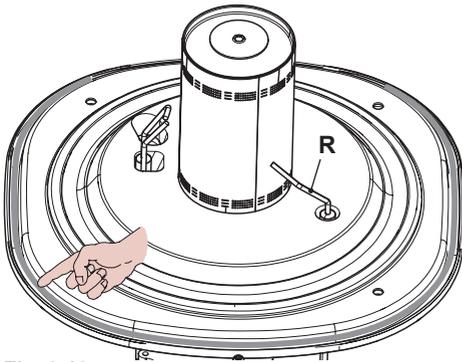

Fig. 9.10
- The detection electrode R in Fig. 9.10 also functions as a sensor for the correct drainage of the condensate. Should the mentioned electrode come into contact with the condensate water present within the combustion chamber it sends the boiler into safety lockout. Therefore, should the insulation be wet or deteriorated, provide for the substitution of the same.
**Caution:** After any periodical servicing or disturbance the combustion chamber silicon seal Fig. 9.10 must be fully inspected and replaced at the discretion of the service engineer.